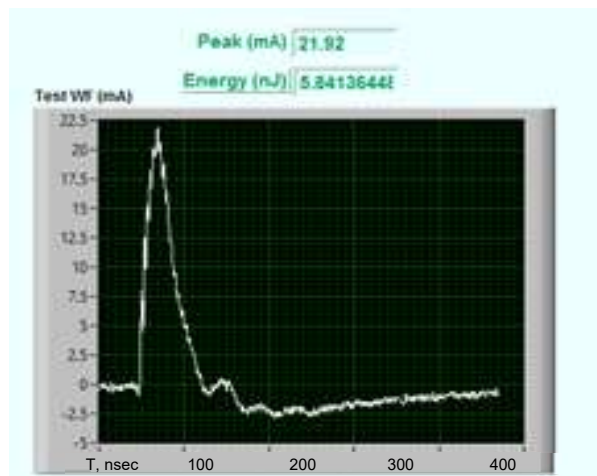

Figure 6-3: Typical shielded bag waveform
- The current pulse generated by the discharge will be detected by the capacitive sensor and will be displayed on the oscilloscope. Typical waveforms for a static shielding bag are shown in Figure 6-3.